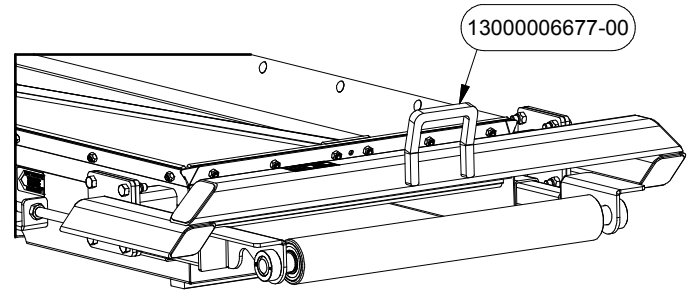
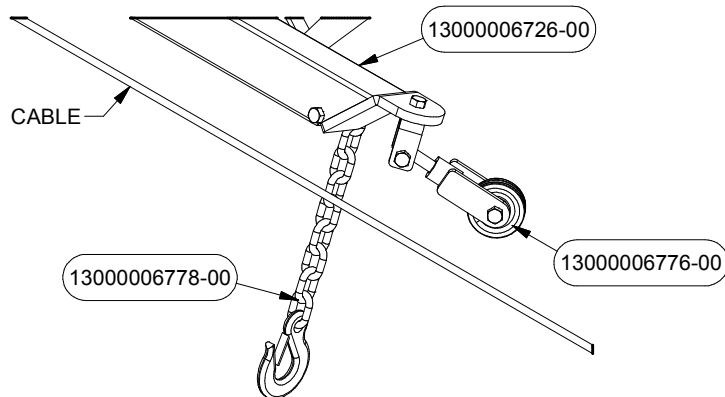

FIGURE 6
FIGURE 5
- Slide in the Winch Cable to the Pulley PN# 6776 (see Figure 5), then hook the Cable to the Hitch of the swing PN# 6677 (see Figure 6).